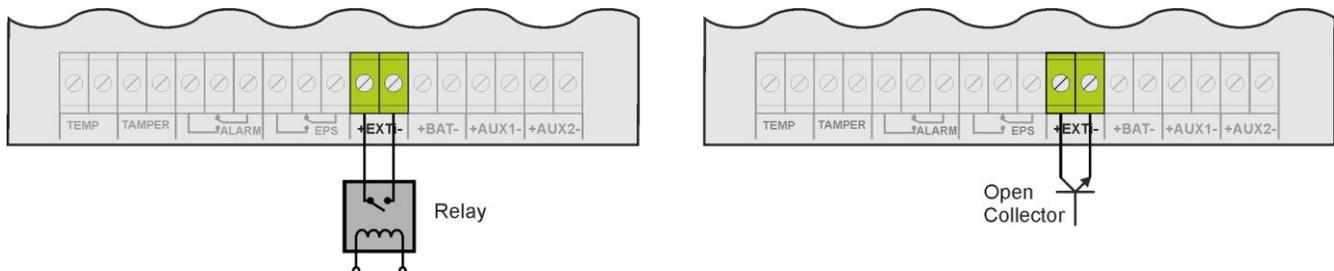

Fig. 9. Connections to the EXTi input.
The possibility of such protection is provided by the optional EN54C-LB4 (4-channel) or EN54C-LB8 (8-channel) fuse module. Figure 9 shows the connection of the power supply, the fuse module, and the receivers (LOAD).
- switching the PSU relay output into a no-voltage state (contacts as in Figure 9)